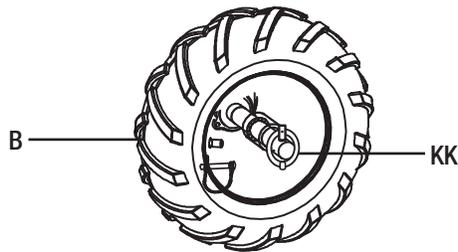

Figure 1-11
- Remove the wheel pin (KK). Slide the wheel (B) inward toward machine.
- Insert the wheel pin (KK) in the axle only.
- The wheel (B) should turn freely on the axle. See Figure 1-11